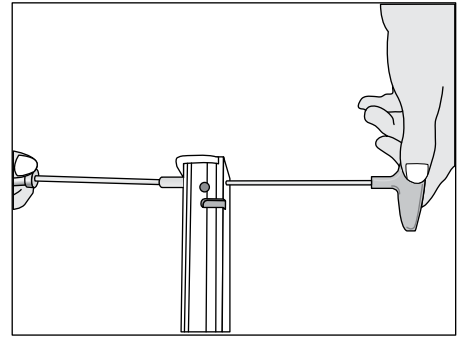

Figure 19
5. Loosen the screw and nut with a 2.5 mm Allen wrench and 7mm socket wrench. (See Figure 19)